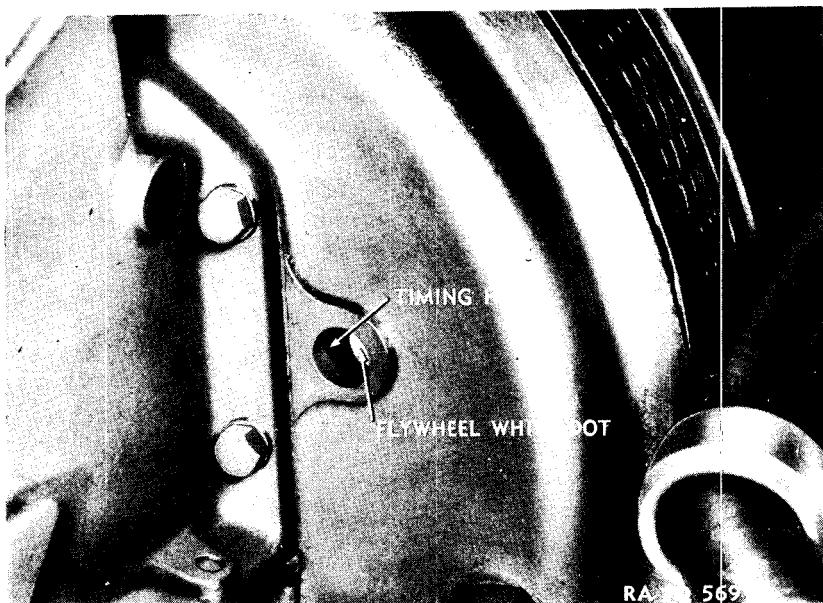

Figure 19—Timing Hole in Engine Bell Housing
(9) IGNITION TIMING. NOTE: Timing should be checked under the supervision of ordnance personnel. Attach one wire of the neon timing light to No. 1 spark plug, and the other wire to the No. 1 spark plug wire. Start the engine and run it at idling speed. Loosen distributor clamp and slightly rotate distributor body clockwise or counter-clockwise until the entire white dot on the flywheel (fig. 19) is visible through the timing hole in the flywheel housing each time the light goes on.
(10) COOLING SYSTEM. Tighten all hose connections, and examine for any indications of water leaks. Check the fan and exciter belts for cracks, oil soaking, and for proper tension.